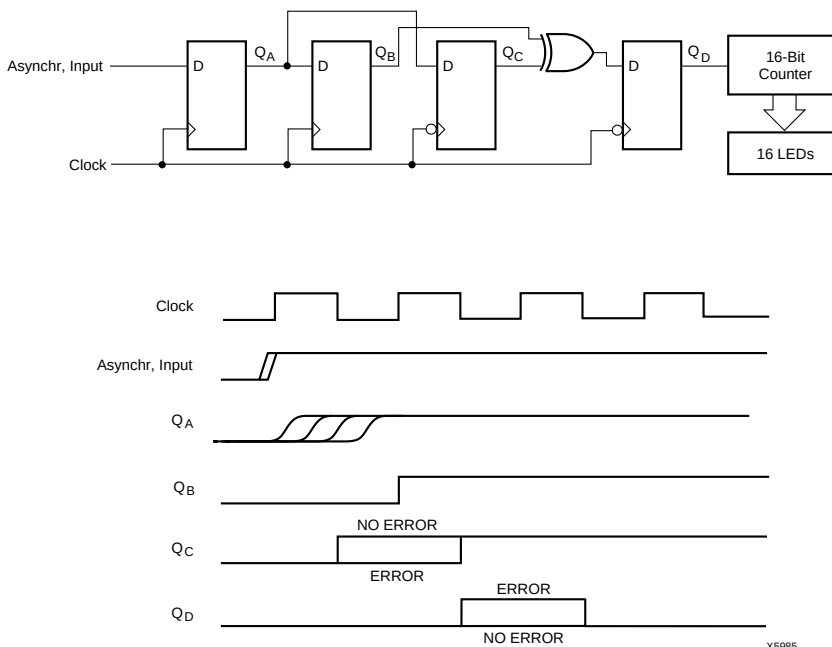

Figure 1: Test Circuit and Timing Diagram
Since metastability can only be measured statistically, this data was obtained by configuring several different Xilinx FPGAs with a detector circuit shown in Figure 1. The flip-flop under test receives the asynchronous ~1-MHz signal on its D input, and is clocked by a much higher manually adjustable frequency. The output QA feeds two flip-flops in parallel, one (QB) being clocked by the same clock edge, the other (QC) being clocked by the opposite clock edge. When clocked at a low frequency, each input change gets captured by the rising clock edge and appears first on QA, then, after the falling clock edge, on QC, and finally, after the subsequent rising clock edge, on QB.
The circuit of Figure 1 was implemented in four different Xilinx devices: two cutting-edge devices using 0.5 micron, 3-layer-metal technology, the XC4005E-3 and the XC3142A-09, and, for comparison purposes, also in two older-technology devices, the XC4005-6 and the XC3042-70.